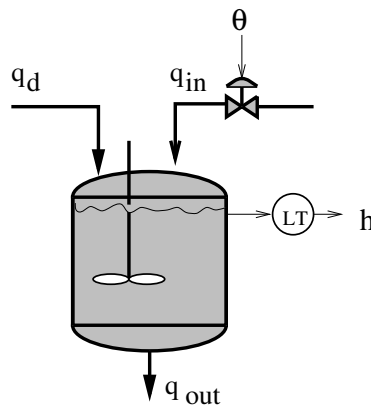

Figure 7.6 A buffer tank
7.4 Consider the buffer tank system in Figure 7.6. The inflow q_{in} is determined by a nonlinear valve. The valve position, θ , is the manipulated variable. The inflow q_d is a disturbance. The outflow q_{out} depends on the tank level. The measured process variable is the level in the tank h .